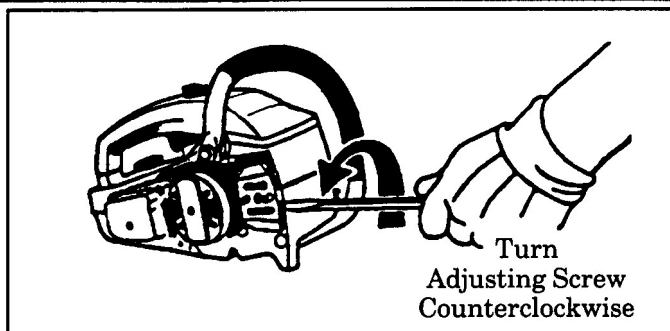

Figure 6
- Turn the adjusting screw counterclockwise to move the adjusting pin almost as far as it will go to the rear. Figure 6.